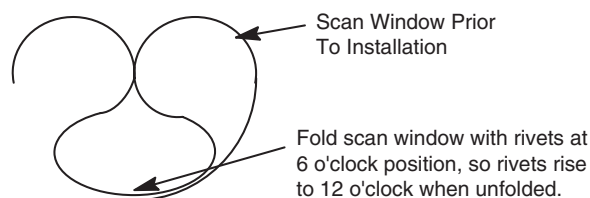
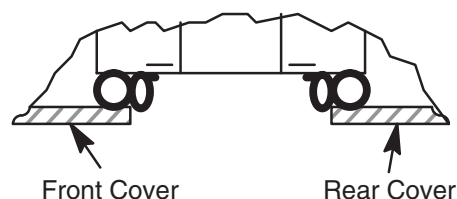

Figure A-31 Install Scan Window
Figure A-32 Scan Window Nested Between Front and Rear Cover
- 2.) Deform the scan window (as shown in Figure A-31), and nest it at the bottom of the opening between the front and rear covers (see Figure A-32). The rivets are in the six o'clock position. Remember, the rivets must be in the 12 o'clock position when the Mylar window is fully installed.